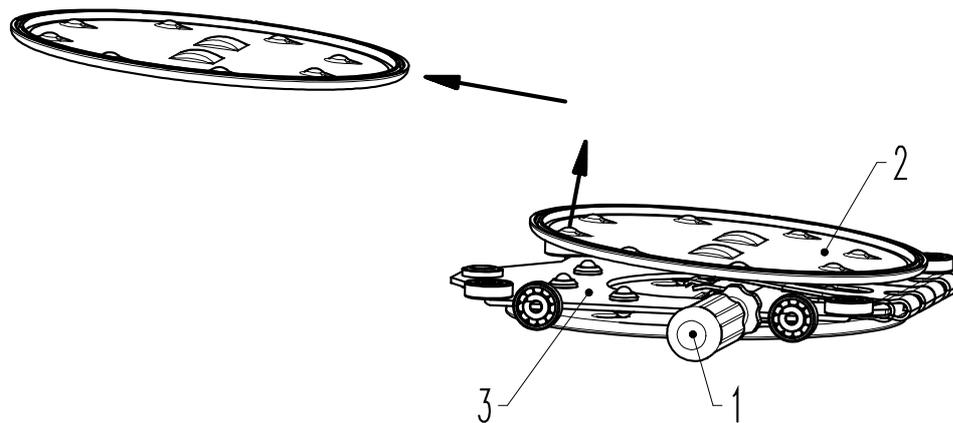
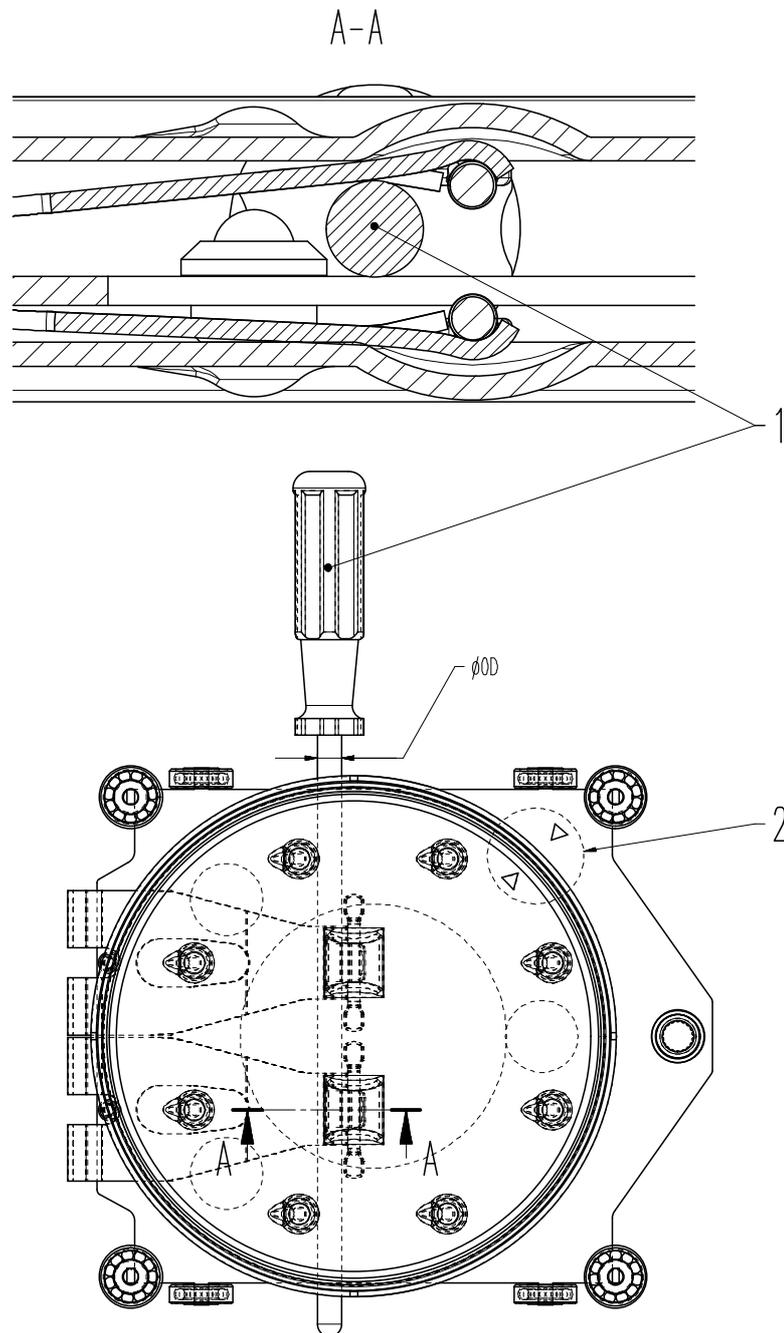

Figure 6-3
Figure 6-4
For dismounting and mounting the valve gate always use tool (1) according to «Figure 6-3». The tool may be ordered from VAT.
12. Lift valve gate (2) by hand and insert tool (1) between valve gate (2) and ball guidance (3); see «Figure 6-3» on page 18 and «Figure 6-4» on page 19.
13. Remove valve gate in direction of the arrow; see «Figure 6-3» on page 18.
The markings Δ and ∇ (2) according to «Figure 6-4» on page 19 on ball guidance and valve gate must face each other.
15. Withdraw tool according to «Figure 6-3» on page 18.